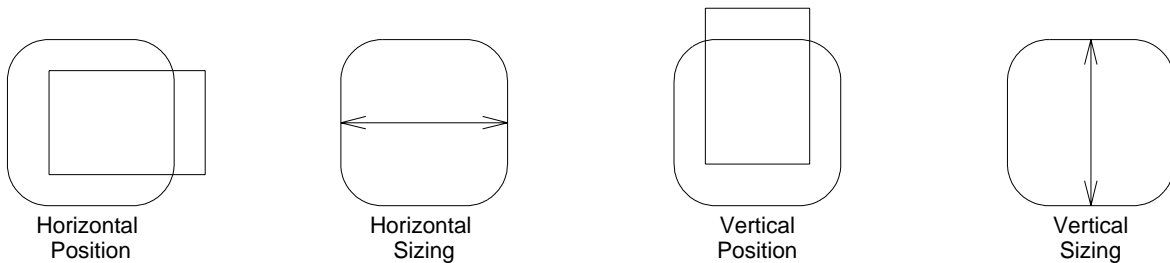

Figure 2, Monitor Adjustment Symbols
49. Using the **Select "+"** or **"-"** buttons on the front of the monitor, highlight **Horizontal Position** symbol, as shown in figure 2 below.